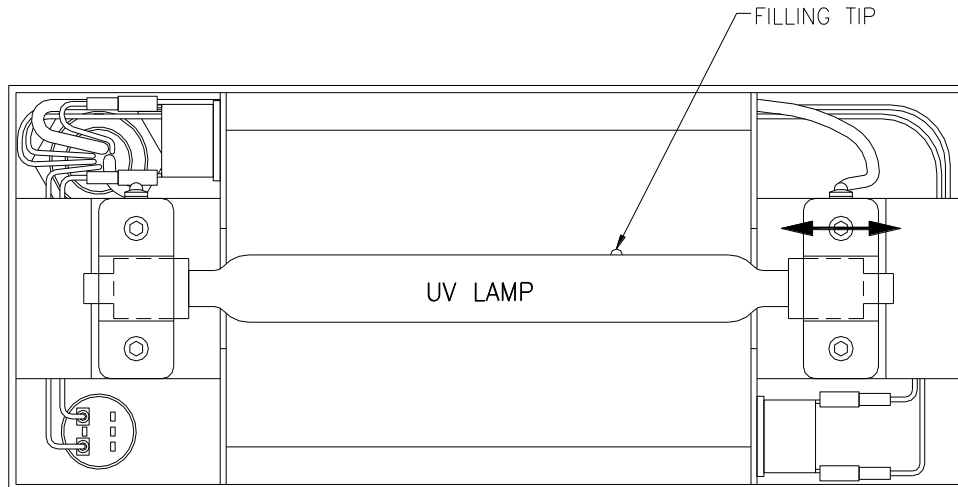

Fig. 16 Irradiator Underside View
- If the UV Lamp has a Filling Tip (bump on the body) as shown in Fig. 16, position the Filling Tip towards the Irradiator Reflectors (upwards or sideways for general use).